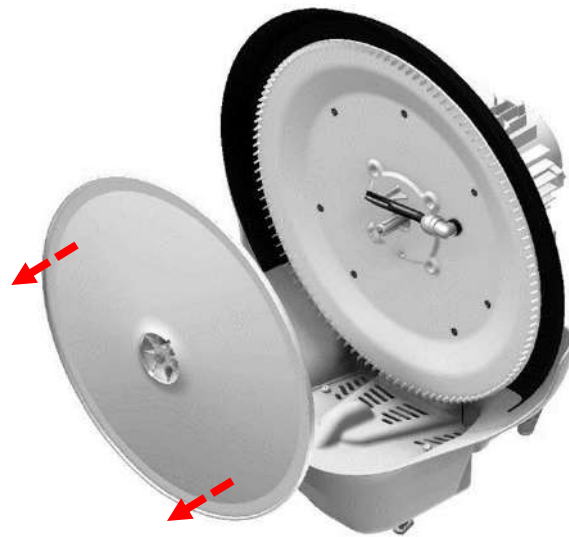

Fig. 4.4.4
- Use a screwdriver spanner (hexagonal 13) to tighten the screw, which will push the disc out effortlessly as it enters the hole. (Fig. 4.4.4)